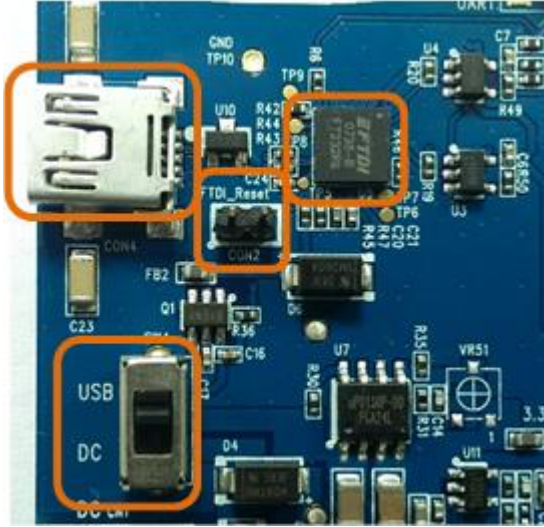

Figure 5: USB Connector (CON4), FT232R (U9), SW4, and CON2
- **USB Connector.** The development kit provides a USB Type mini-B connector (CON4) which allows connection to any USB host device. The connector optionally supplies power to the DVK-BT830 when SW4 is set to the USB position. The USB signals are connected to a USB to serial convertor device (FT232R) (Figure 5).